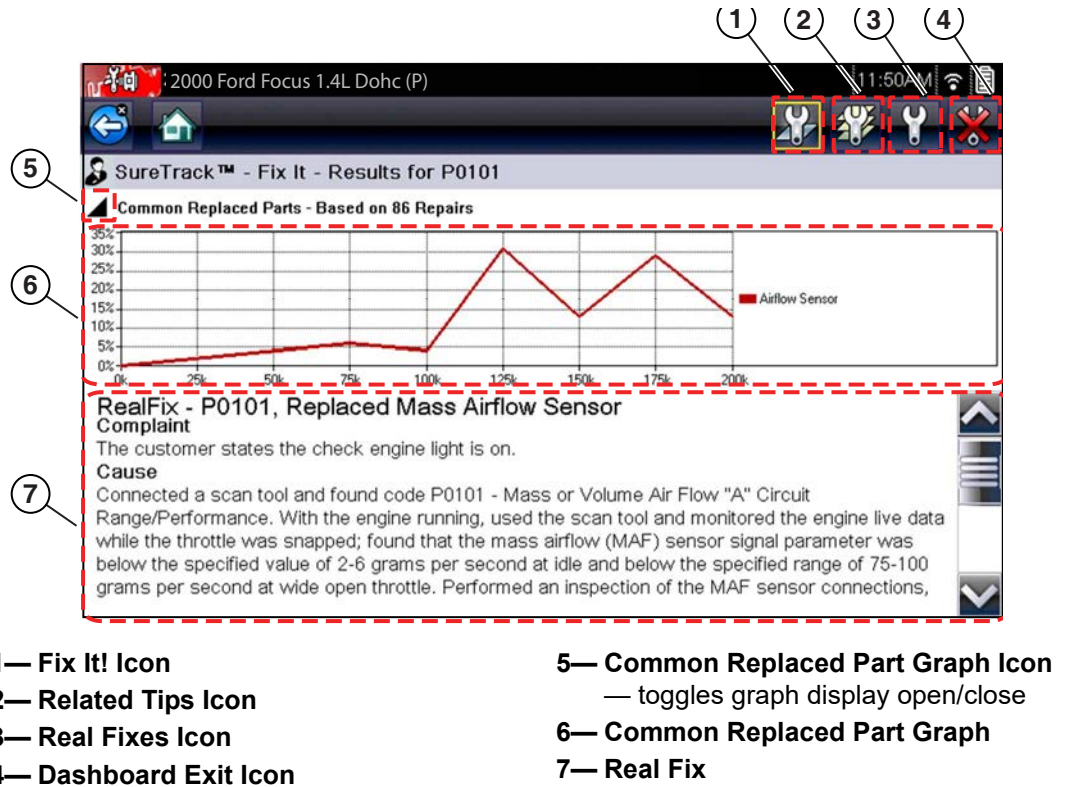

Figure 4-16 SureTrack dashboard
Selecting the **Fix It!** icon from the DTC results screen opens the SureTrack dashboard. The initial Dashboard screen displays both the Common Replaced Parts Graph and either a Tip or Real Fix for the current DTC (depending on availability). The Related Tips and Real Fixes icons are also available from this screen (Figure 4-16).
- Selecting the **Fix It!** icon (Figure 4-16) from the DTC results screen opens the SureTrack dashboard which may include Real Fixes for the selected DTC. If Real Fixes are not available for the DTC, Tips may be displayed.
- Selecting the **Real Fixes** icon (Figure 4-16) displays Related and Real Fixes (if available). Selecting an item from the list opens additional details about the Fix in a Complaint, Cause, Correction format (Figure 4-18 and Figure 4-19).